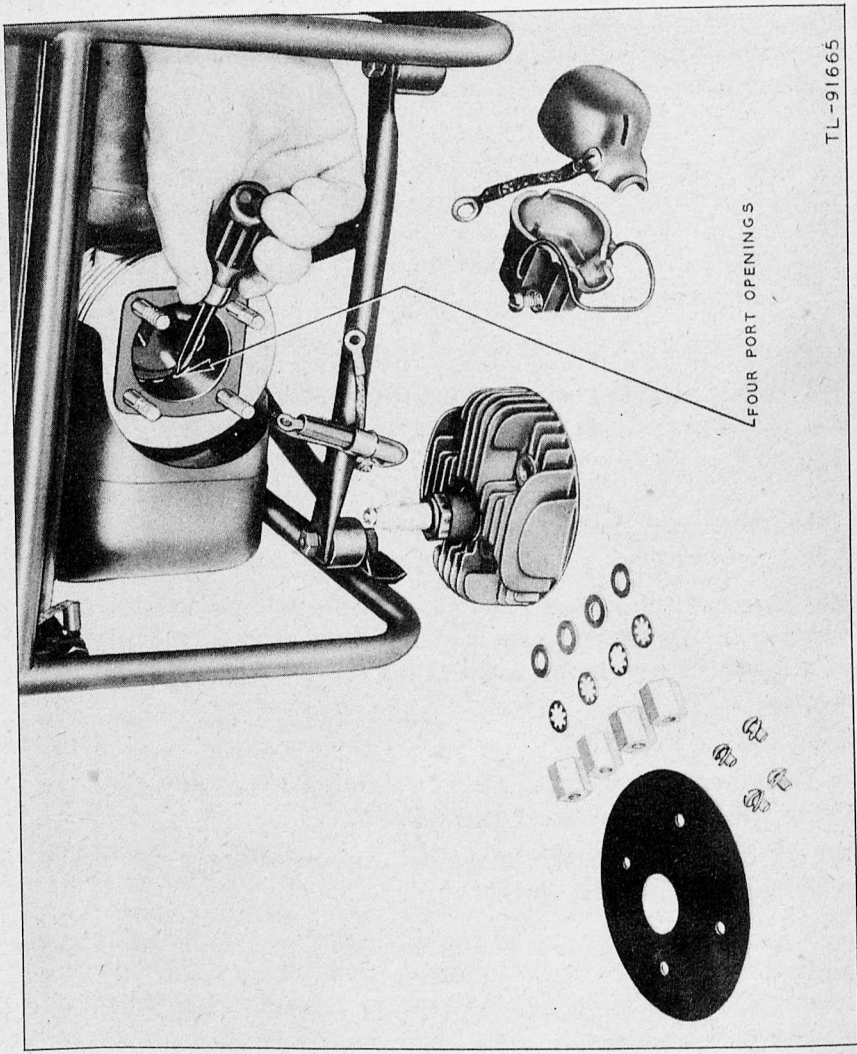

Fig. 16—Carbon Removal — Intake Ports
(2) Intake ports. Access to the intake port holes (fig. 16) for cleaning is attained by removing the spark plug shield, spark plug, cylinder head baffle and cylinder head. Turn the engine over until the piston is on bottom dead center. The openings can then be cleaned out, using the same tool as for exhaust ports. Be sure no chips remain in the cylinder, as they will foul up the spark plug in starting. To facilitate reaching the intake port openings, remove the muffler.
(3) Disassemble and clean the muffler every 250 operating hours.
13. **LUBRICATION.** Power Unit PE-214-B requires no lubrication other than the oil mixed with gasoline for the engine (par. 5. b.) and occasional lubrication of the magneto cam (466) with grease. Do not use a fluid lubricant.